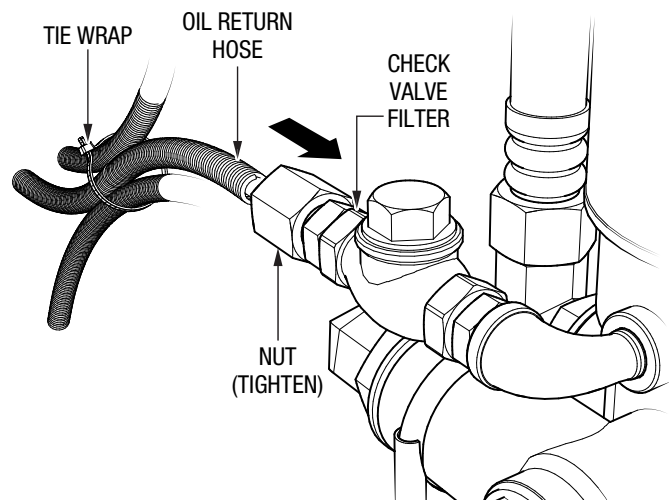

Figure 23. Oil Return Hose Installation
7. Insert the oil return hose into the check valve filter (Figure 23). Tighten the oil return hose nut to secure.
8. Rewrap the oil return hose in its harness and secure the harness to the other hose harnesses with a tie wrap (Figure 23).